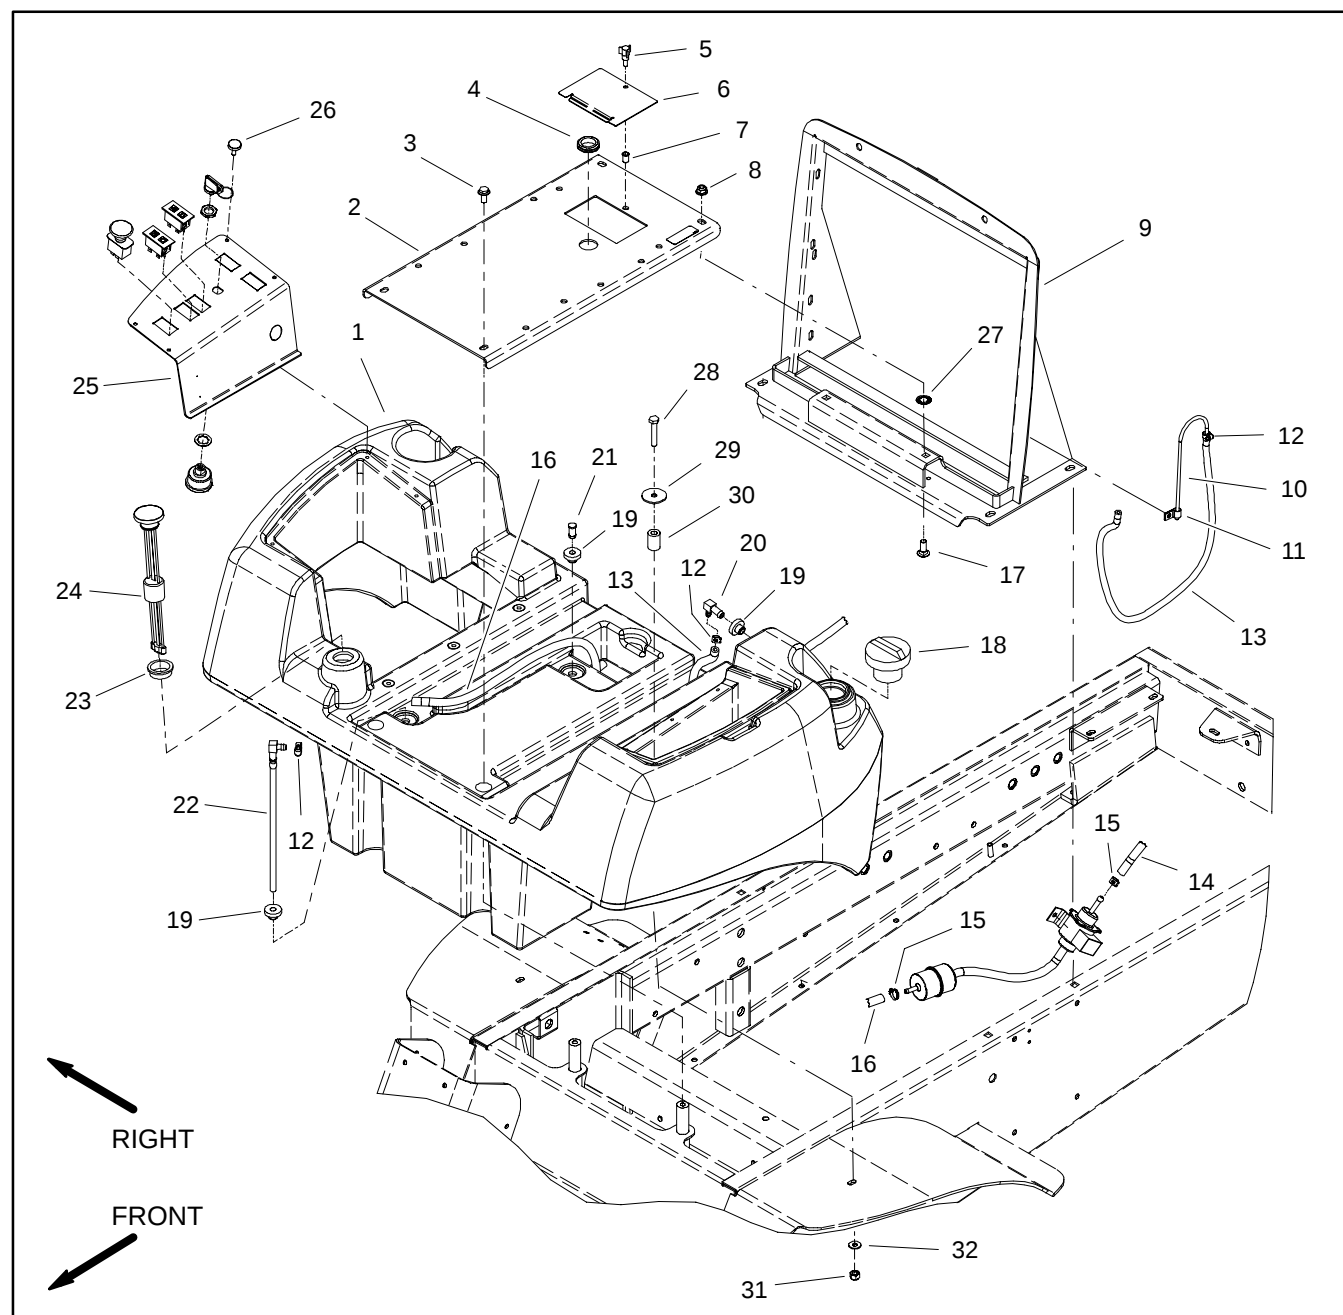
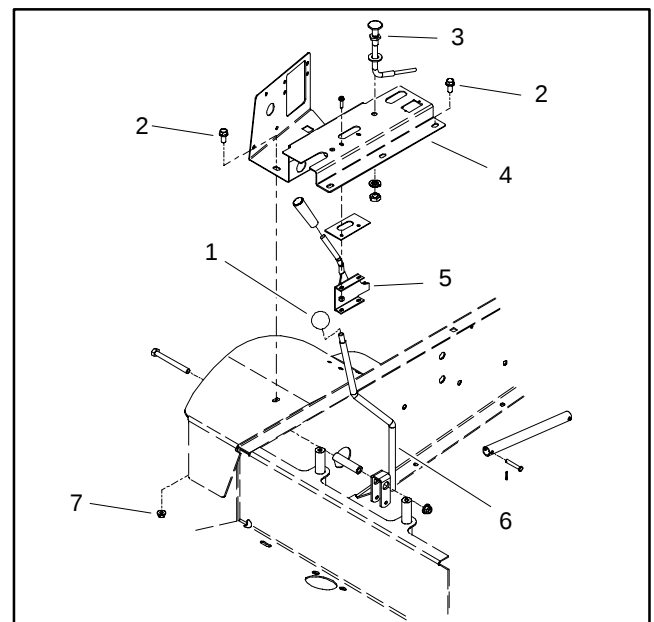

Figure 6
Figure 7
Fuel Tank Removal (Fig. 6)
4. Remove seat plate (item 2) from machine.
5. Remove thumb screws that secure control panel (item 25) to fuel tank. Unplug wire harness connections from panel components and remove panel.
6. Remove flange head screws and flange nut that secure lower control panel to machine (Fig. 7).
7. Remove lock nut (item 31) and flat washer (item 32) from left fender.
9. Disconnect fuel hoses from standpipe (item 22) and elbow fitting (item 20) on the top of the fuel tank.
10. Remove fuel tank using Figure 6 as a guide.
Fuel Tank Installation (Fig. 6)
1. Install fuel tank to frame using Figure 6 as a guide.
2. Connect fuel hoses to standpipe (item 22) and elbow fitting (item 20) on the top of the fuel tank. Secure hoses with clamps.
3. Secure lower control panel to machine with flange head screws and flange nut (Fig. 7).
4. Secure tank to left fender with flat washer (item 32) and lock nut (item 31).